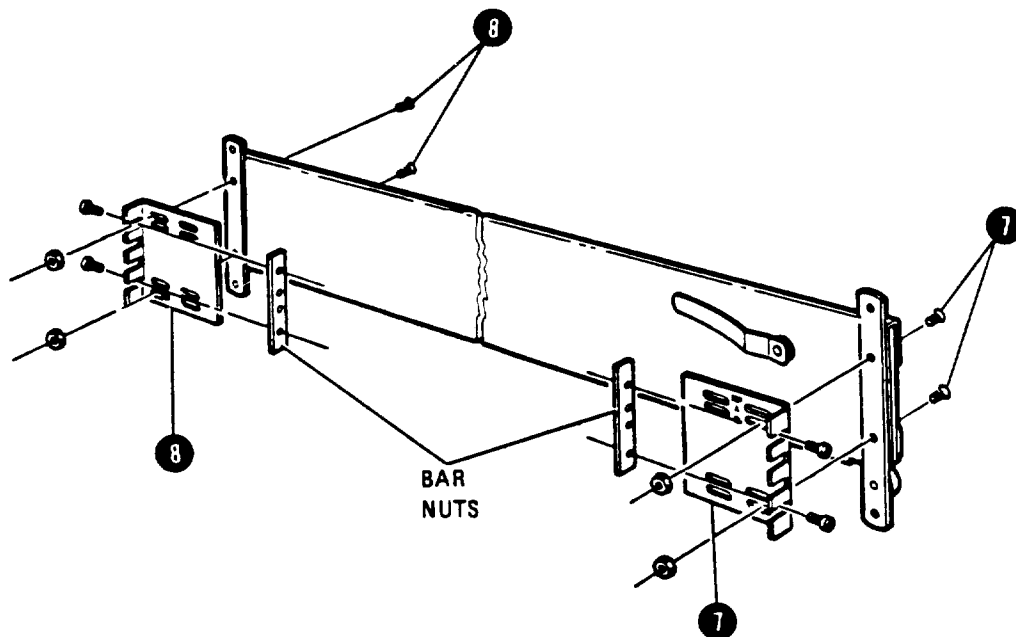

Figure A-12. Installing End Brackets for Non-HP Cabinets
7. Attach end brackets for non-HP cabinets using hole pattern "B". Mount end brackets to the front of each outer slide mount using two M5x0.8x12 flat head screws and two nuts with washers per side. See Figure A-12.
8. Mount end brackets to the rear of each outer slide mount using two M5x0.8x12 pan head screws and two nuts with washers per side. See Figure A-12.